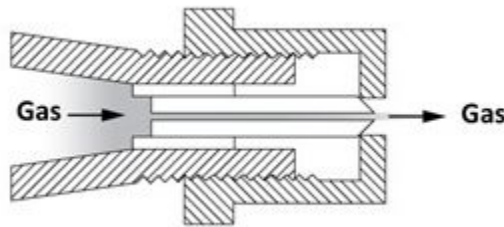

Figure 3 Cap orifice setup for propane
- Figure 3 “Burner port flow velocity” by Camosun College is licensed under a CC BY 4.0 licence.
Under the cap (or hood) of the orifice is a needle with a hole drilled through it which is sized for the propane use. For propane operation, which has a higher heat value, the cap is threaded onto the needle (clockwise), giving a fixed flow rate through the needle hole. (Figure 3)